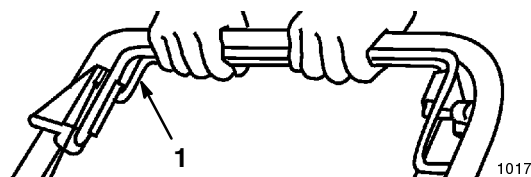

Figure 12
1. To operate the self-propel drive, squeeze the self-propel drive bail against the handle and hold it (Fig. 12).